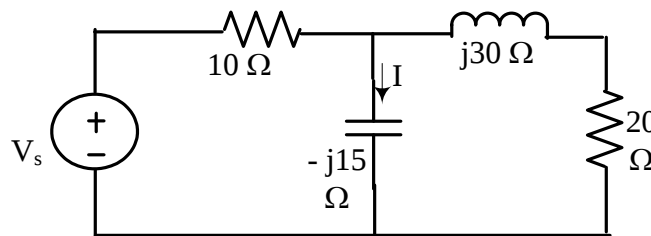

Fig.3
3. An AC source $V_s = 120 \angle 0^\circ$ volts RMS supplies power to the network shown in Fig.3. Determine the current through the capacitor in the form $I \angle \theta^\circ$ using any suitable method.